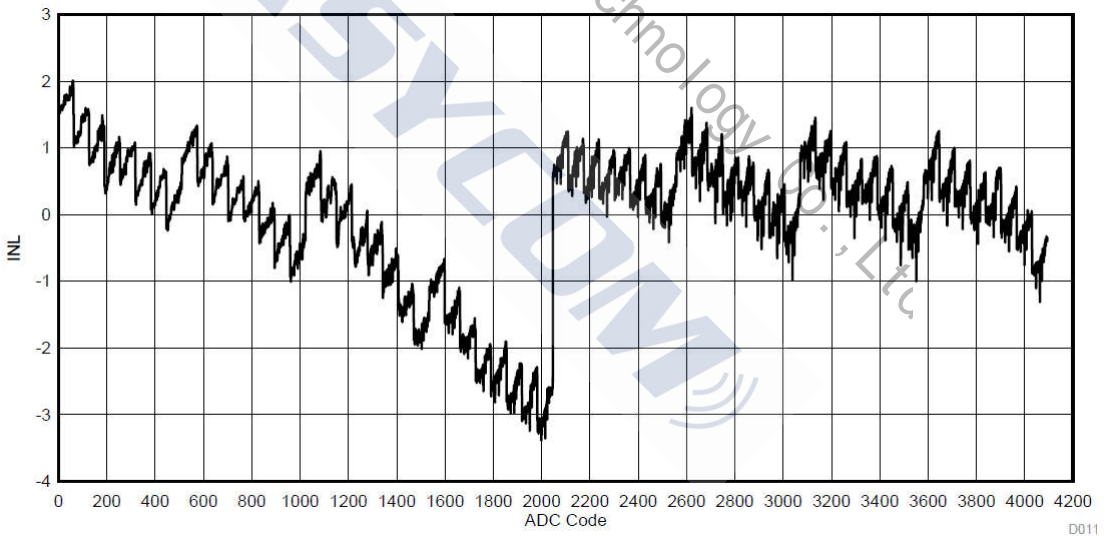

Figure 5: SoC ADC INL vs ADC Code (Internal Reference, No Scaling)
- (4) For a typical example, see Figure 5
- (5) Applied voltage must be within absolute maximum ratings (Absolute Maximum Ratings) at all times.